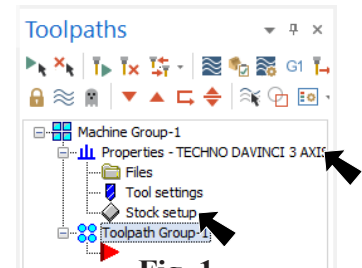

Fig. 1
Fig. 1 on the Machine tab **Machine**, click Mill  > De-fault from the menu.
Step 4. Expand **Properties** (click +) in Toolpaths Manager and click **Stock setup** in Toolpaths Manager, **Fig. 1**.